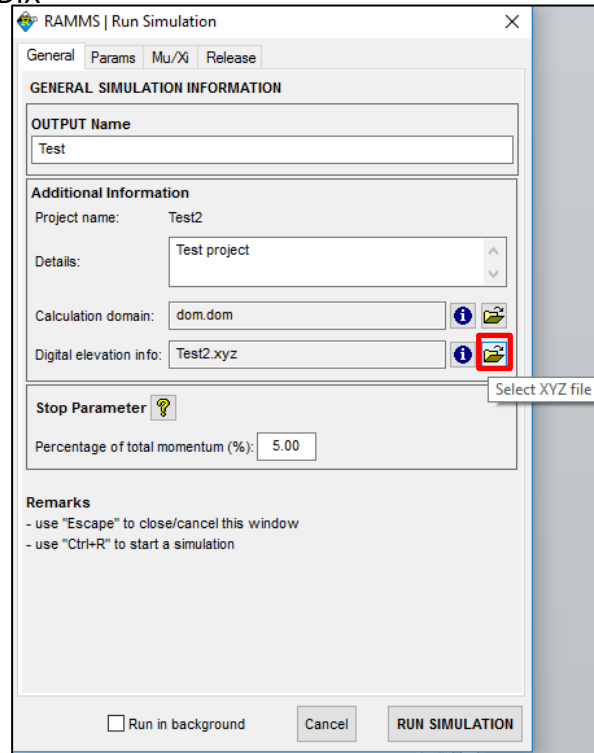

Figure 4-24: Select new XYZ-file with dam information.
- The new XYZ-file, containing the deposition information, is created. To run a simulation based on this new XYZ-file, just choose the XYZ-file in the Run Simulation window, see Figure 4-24.